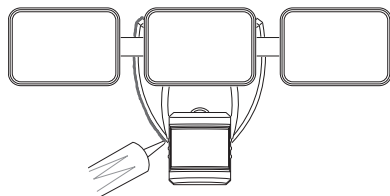

Figure 6
5. Caulk around mounting plate and mounting surface with silicone weather sealant (see Figure 6).